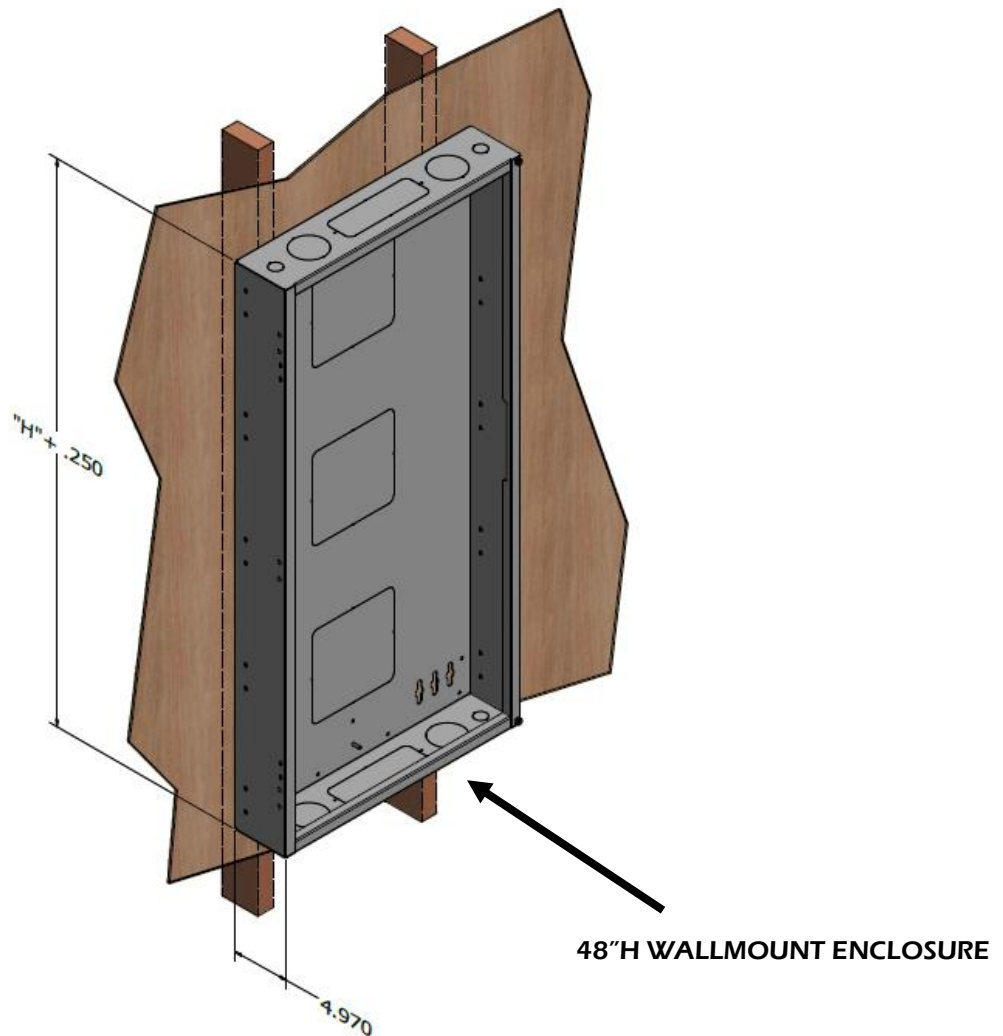

Figure 7
**Note:** The Wall Mount Series is furnished with a variety of cable entrance/exit ports. Both the top and bottom of the cabinet have two (2) 3" diameter and one (1) 2.5"x 8.00" rectangle knockouts for cable access. Also, there are two (2) 1" diameter knockouts for conduit connections. Additionally, there is one (1) 8" square knockout on the rear surface in a 24" H enclosure or three (3) 8" square knockouts in a 48" H enclosure for wiring directly into the wall. See Figure 7.